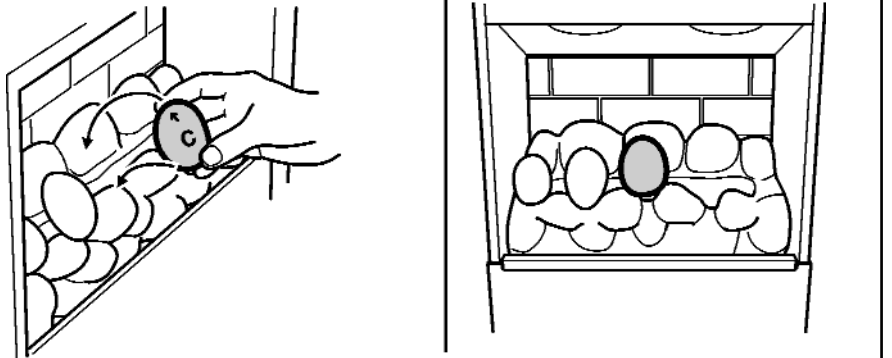

Figure 27.
4. Hold pebble 'C' upright with the arrow pointing to the top. Locate pebble 'C' as shown in figure 27.